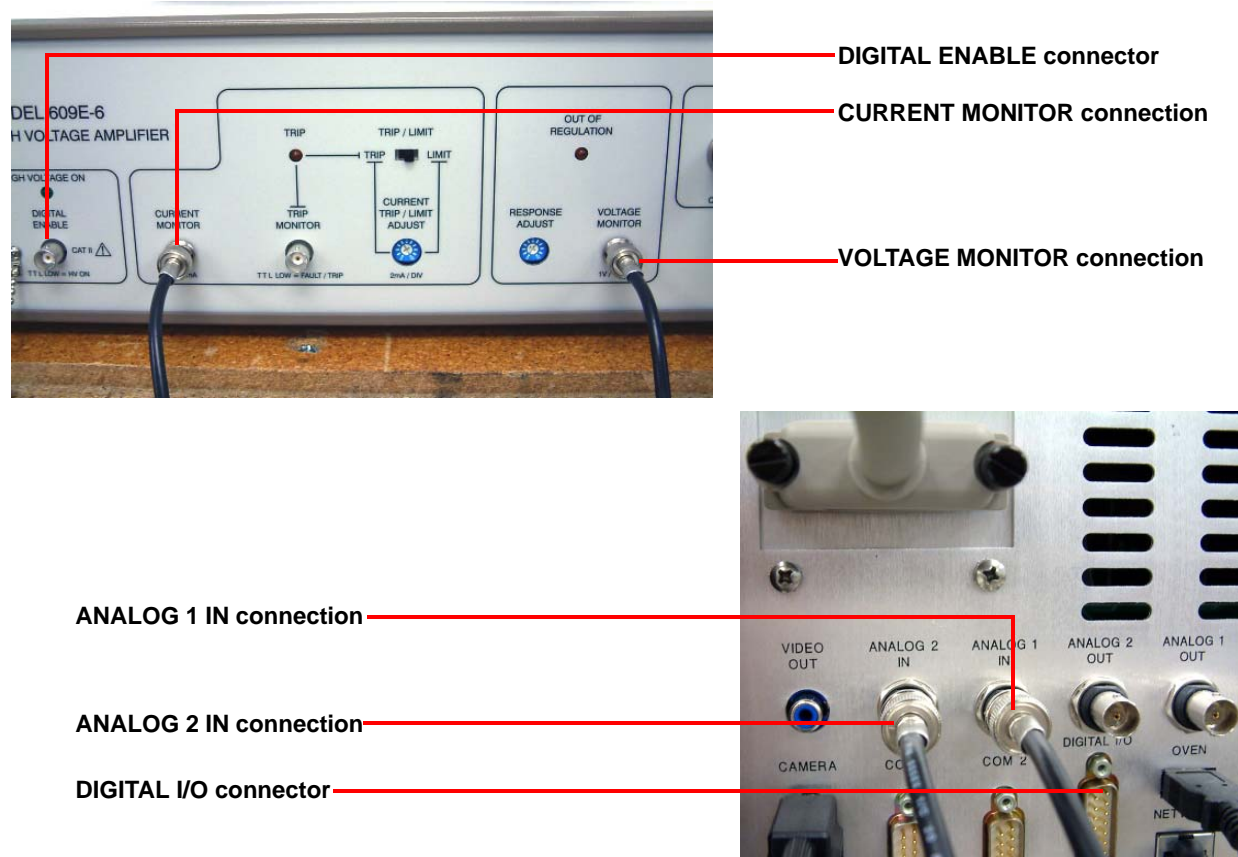

Figure 15 BNC cable connections from amplifier (top image) to ARES-G2 rear panel (bottom image).
- 10 Connect a BNC cable from the **VOLTAGE MONITOR** connector on the amplifier front panel to the **ANALOG 1 IN** connector on the ARES-G2 rear panel. See Figure 15 (top image).
- 11 Connect the other BNC cable from the **CURRENT MONITOR** connector on the amplifier front panel to the **ANALOG 2 IN** connector on the ARES-G2 rear panel. See the bottom image in Figure 15.
- f Plug one end of the interlock cable connection into the **DIGITAL I/O** connector on the rear panel of the ARES-G2. Connect the other end of this cable into the **DIGITAL ENABLE** connector on the amplifier. Refer to Figure 15 for connection locations.